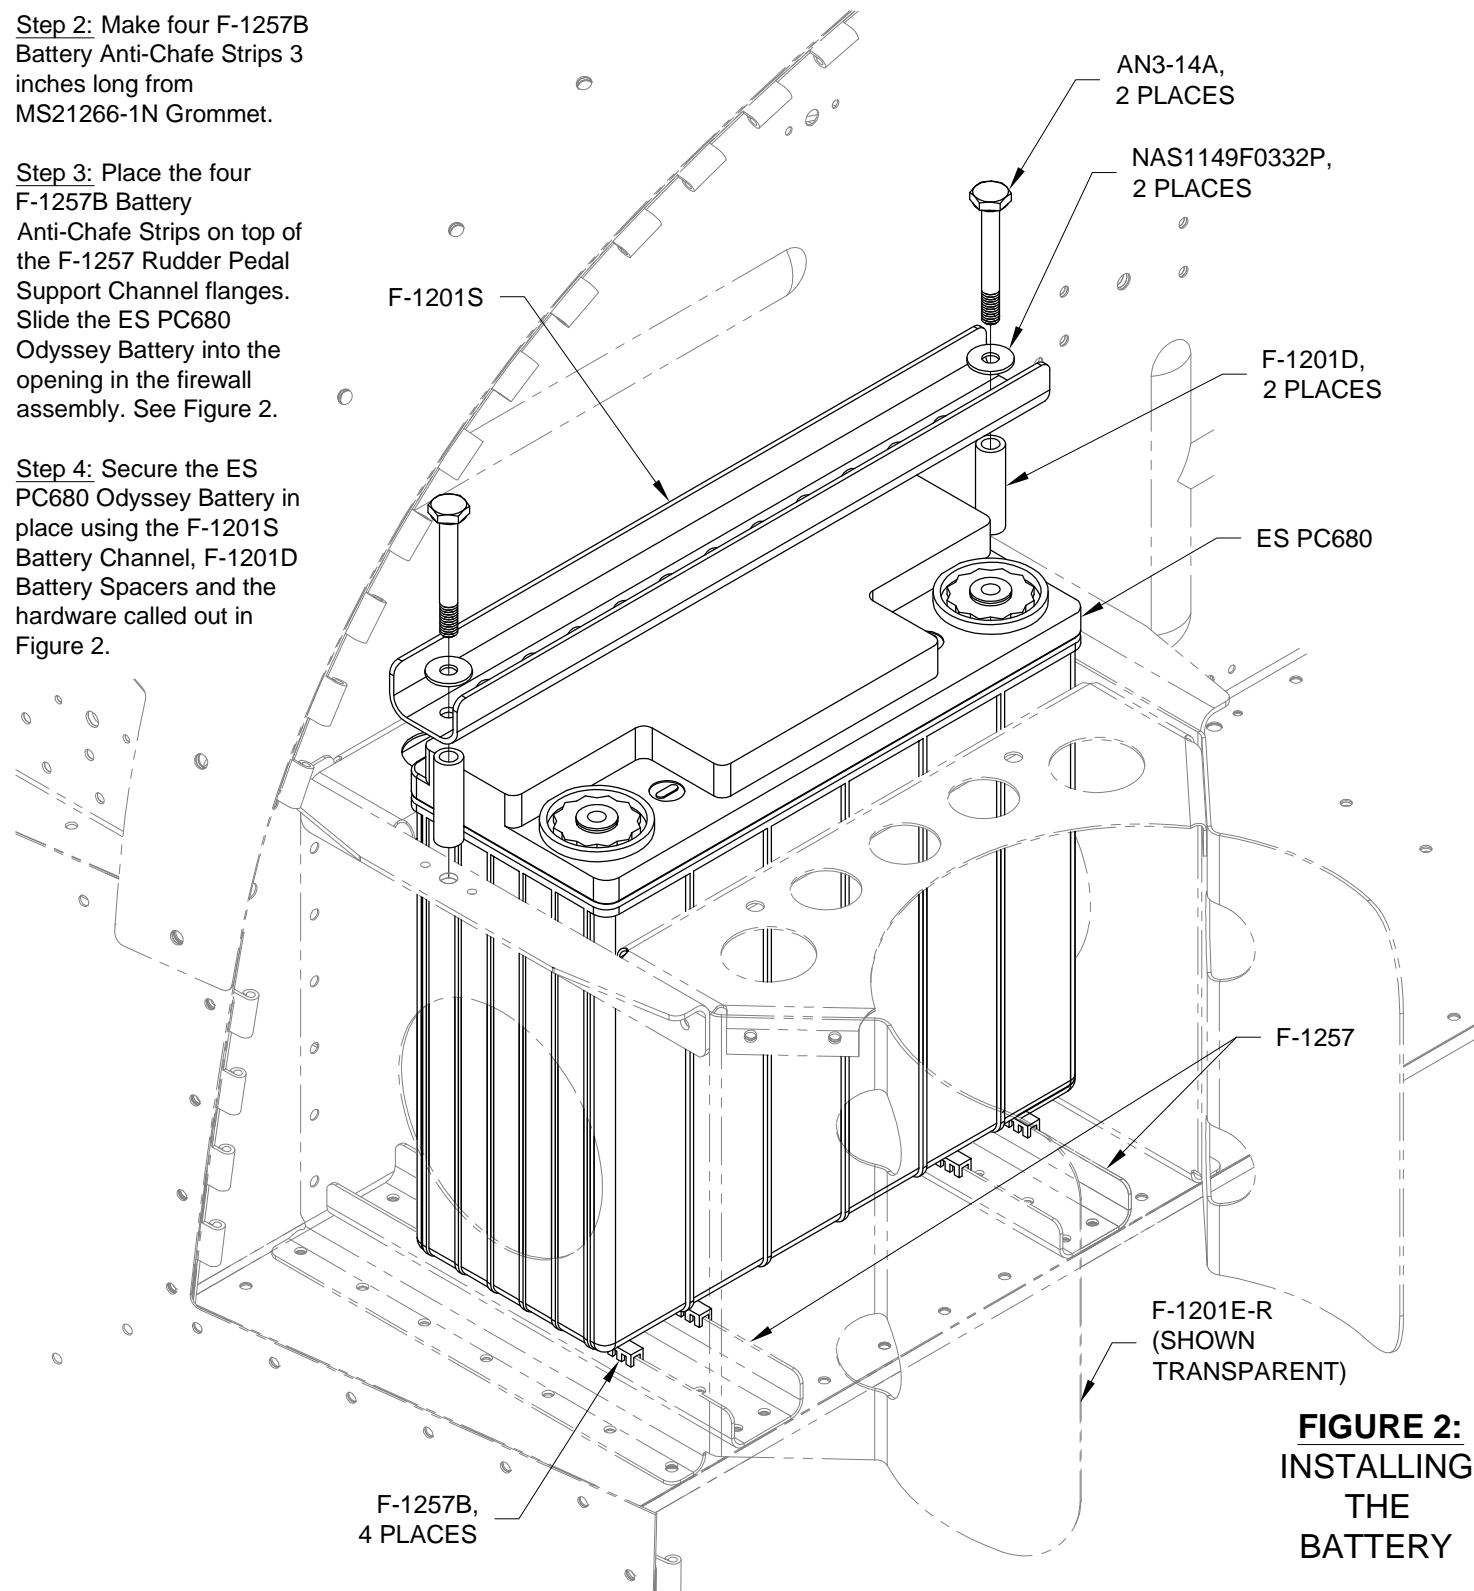

FIGURE 2: INSTALLING THE BATTERY
Step 3: Place the four F-1257B Battery Anti-Chafe Strips on top of the F-1257 Rudder Pedal Support Channel flanges. Slide the ES PC680 Odyssey Battery into the opening in the firewall assembly. See Figure 2.
Step 4: Secure the ES PC680 Odyssey Battery in place using the F-1201S Battery Channel, F-1201D Battery Spacers and the hardware called out in Figure 2.